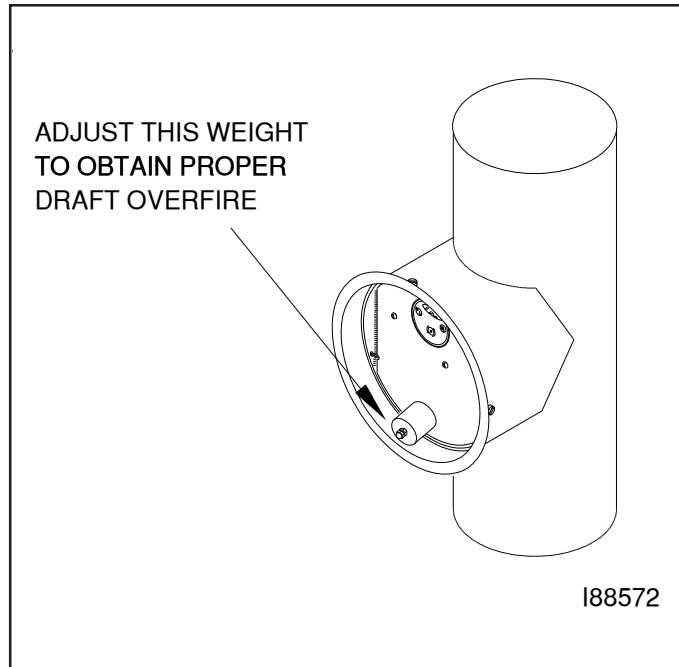

Figure 8B - Adjustment of Barometric Damper
4. As shown in Figure 8B, adjust the weight on the flapper to obtain a consistent $-.02$ w.c. draft overfire. Turn the weight **COUNTERCLOCKWISE** to increase draft (i.e. draft increases as the flapper closes). Turn the weight **CLOCKWISE** to decrease draft (i.e. draft decreases as the flapper opens).